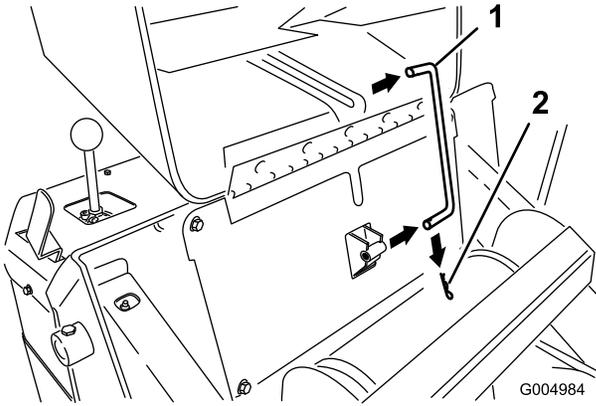

Figure 34
- Pull the hairpin cotter from the end of the hood prop-rod and slide the prop rod out of the retaining brackets (Figure 34).